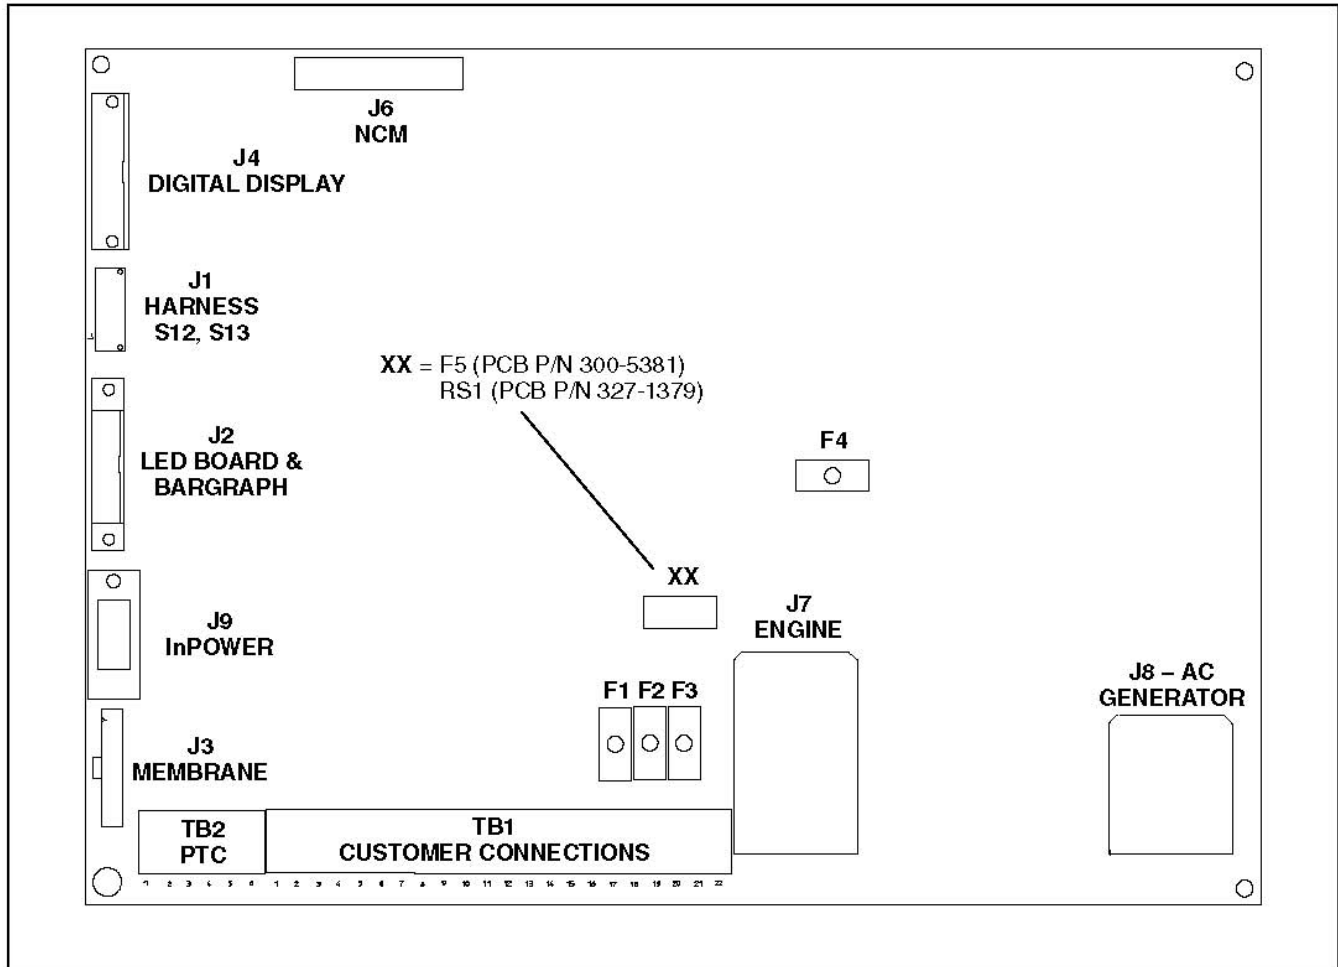

FIGURE 17. BASE BOARD
The base circuit board (Figure 17) contains all of the electronic circuitry required to operate the generator set. The Base board provides fuel control and engine speed governing, main alternator voltage output regulation, and complete generator set control and monitoring.
The following paragraphs describe each of the connectors (J), fuses (F) and terminal boards (TB) shown in Figure 17.